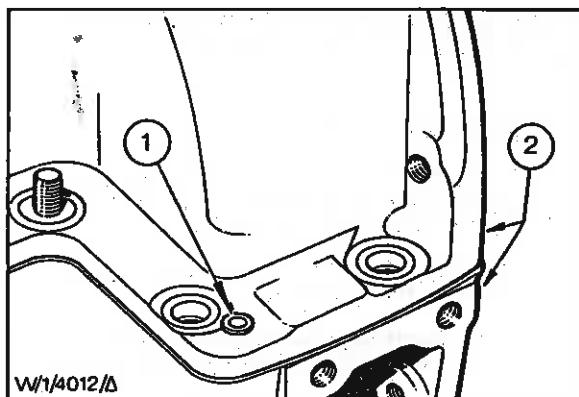

Fig. 71 - Oil Pan Rear Alignment - 2728T Engines
71. Check that the two locating dowels are in position - see Fig. 71.
New Oil Pan Installation - 2728T Engines Only - Refer to Fig. 71